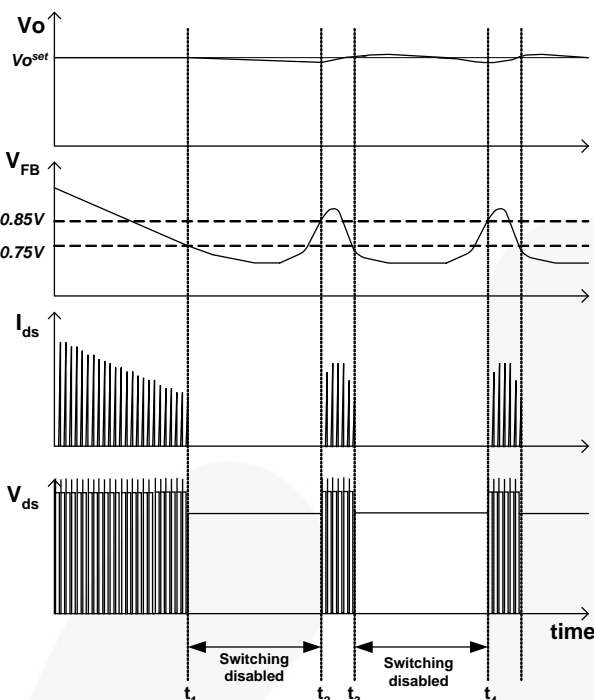

Figure 18. Burst-Mode Operation
**6. Burst-Mode Operation:** To minimize power dissipation in standby mode, the FPS enters burst-mode operation. As the load decreases, the feedback voltage decreases. As shown in Figure 18, the device automatically enters burst mode when the feedback voltage drops below  $V_{BURL}$  (750 mV). At this point, switching stops and the output voltages start to drop at a rate dependent on standby current load. This causes the feedback voltage to rise. Once it passes  $V_{BURH}$  (850 mV), switching resumes. The feedback voltage then falls and the process repeats. Burst mode alternately enables and disables switching of the SenseFET, reducing switching loss in standby mode.